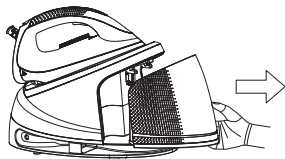
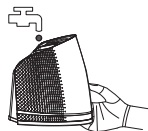
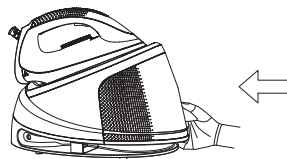

Рис. 1
Рис. 2
Рис. 3
- each time you press the steam release button (2), the pump will activate, producing a characteristic sound.
- as soon as the water in the tank (12) is depleted the pump sound will be significantly louder. Switch the unit off, unplug it from the mains socket, remove the water tank (12), fill the tank (12) with water, reinstall the tank (12) (figs. 1, 2, 3), switch the unit on, and continue operation;
- make sure that the steam pipe (4) does not bend or twist during use.
- During breaks and after finishing, place the iron on the steam station body (10) in the iron docking area (9). Alternatively, place the iron on its base (5) on a stable surface.
2. Remove the water tank (12) from the steam station (fig. 1), fill it with water (at least 300 ml) through the filling hole (13) (fig. 2), then reinstall the tank (12) (fig. 3).
**Note:** do not pour vinegar or any other descaling agents into the tank (12).
3. Set the temperature control knob (6) to «000», «Max».
4. Plug the power cord into the mains socket - the iron will switch on, and the indicator light (7) will turn on. When the iron soleplate (1) heats up to the set temperature, the indicator (7) will turn off.
6. Press and hold down the steam chamber cleaning button (8) for 2 seconds. The indicator light of the button will turn on, the water pump will activate, and steam and water will intensely come out of the soleplate holes (1).
7. After 3 minutes, the steam chamber cleaning function will deactivate, and the indicator (8) will turn off.
8. Set the temperature control knob (6) to «Min», unplug the power cord from the mains, and wait for the iron soleplate (1) to cool down completely.
- Возьмитесь за резервуар (12) и выньте его из корпуса паровой станции (рис. 1).
- Наполните резервуар (12) водой через заливочное отверстие (13) (рис. 2).
- не наливайте воду в резервуар (12) выше отметки «MAX»;
- Установите резервуар (12) на место (рис. 3).